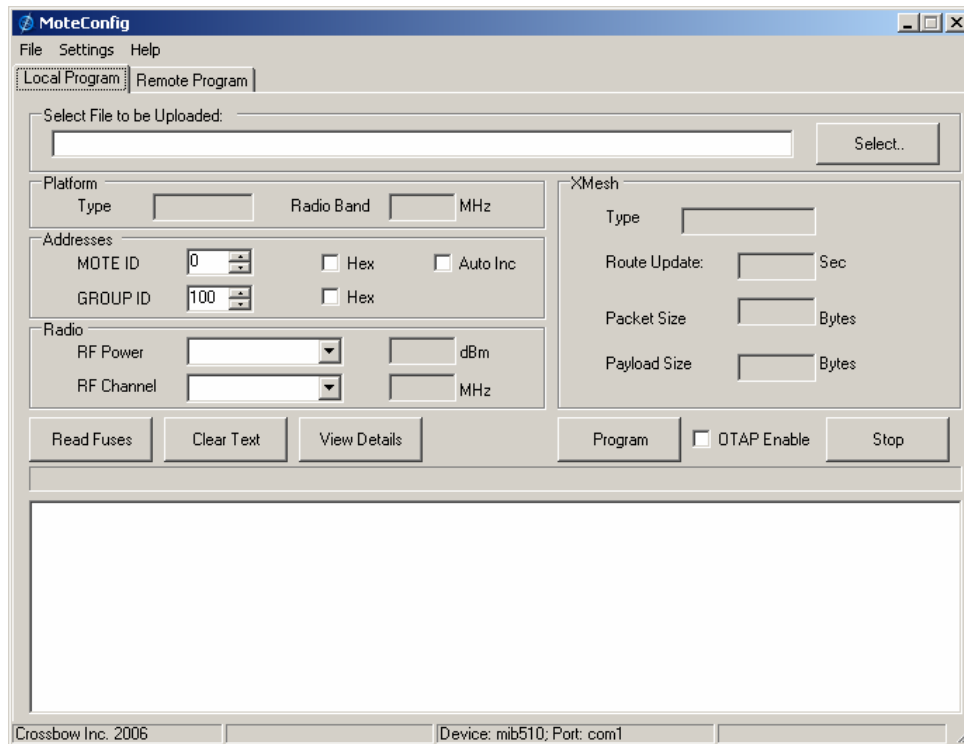

Figure 3-1: MoteConfig Application GUI
- Press the Program Mote button () on the *MoteView* toolbar to spawn the *MoteConfig* GUI as shown in Figure 3-1